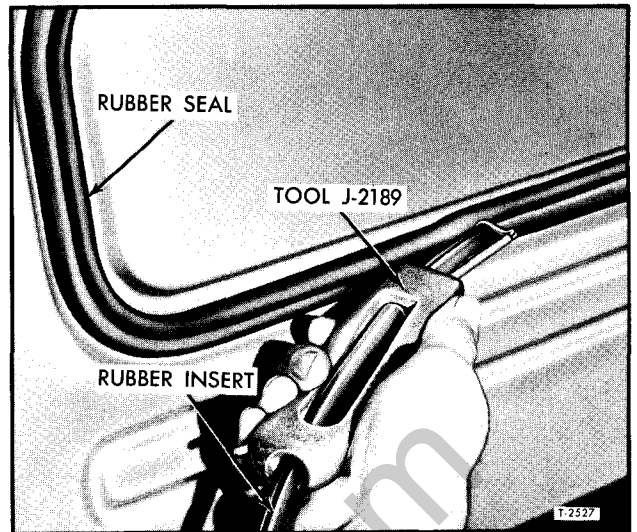

Figure 14—Installing Access Panel Insert
REMOVAL (Refer to Fig. 14)
3. Thread end of small rubber insert through handle and loop of installer tool (fig. 14). Push tool loop and end of insert into groove of seal. Feed in rubber insert, while proceeding around panel. Use a hitching movement of tool to avoid elongation of insert. If new insert strip is being used, cut off insert allowing sufficient overlap for a tight joint, then butt into seal groove.